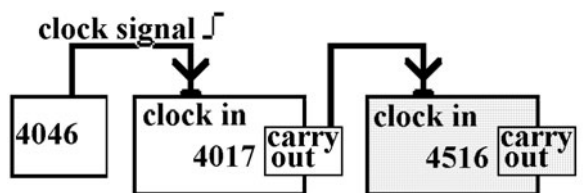

Figure L45-8
1. The 4046 clocks the 4017. Now connect the 4017's carryout to the clock input of the 4516 as shown in Figure L45-8. Think about it. Try to explain what is happening.